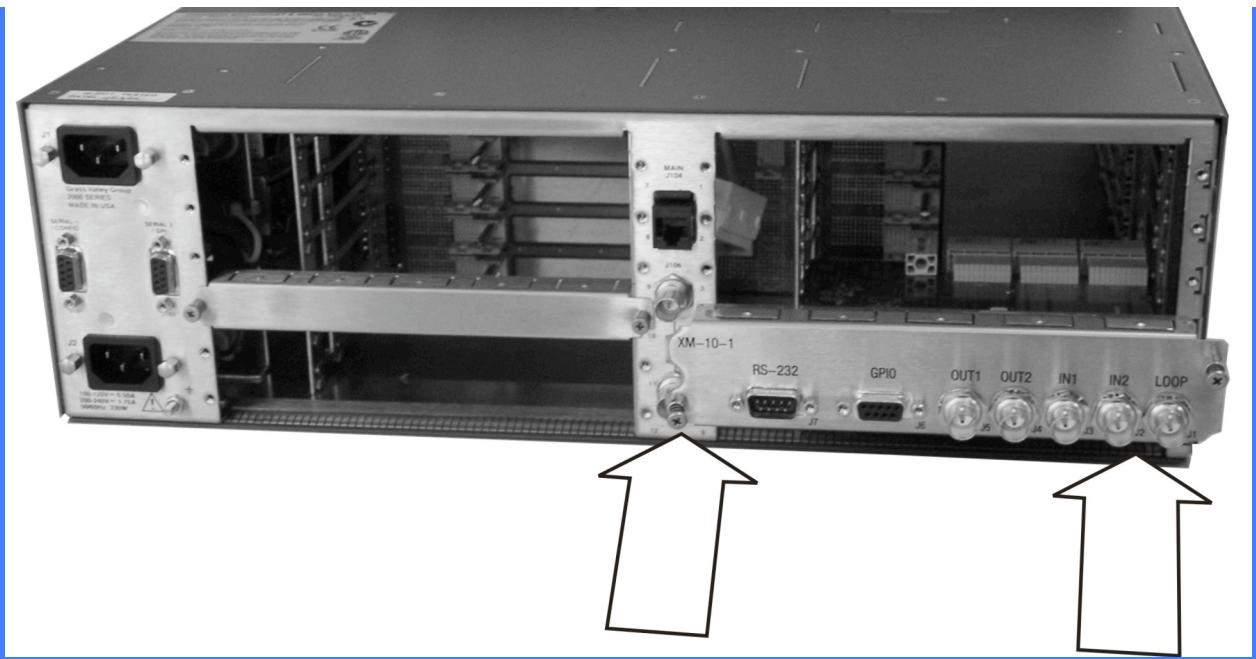

Figure 2 - Inserting XMR-IO-1 Rear Module into Slot 4
2. Insert the XMR-IO-1 rear module into the vacant rear slot of the frame. Figure 2 shows the rear module being inserted into slot 4 of the 3RU Kameleon chassis.